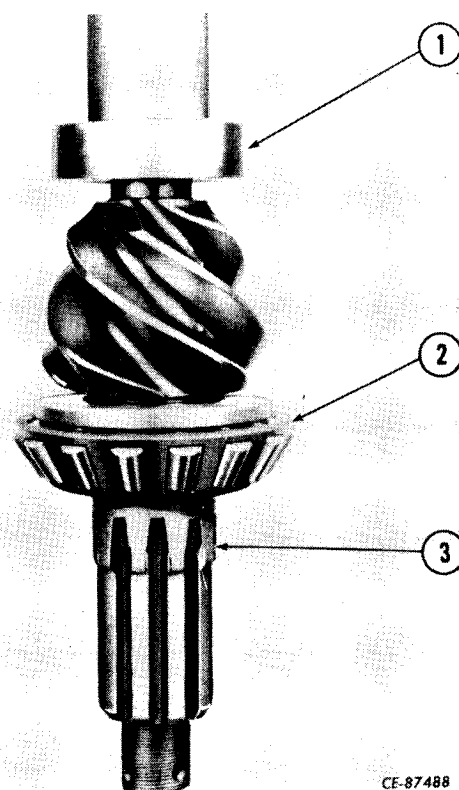

Figure 6-49
Press inner thrust bearing (2, Fig. 6-49) on pinion shaft (3). Be sure bearing cone bottoms on gear shoulder.